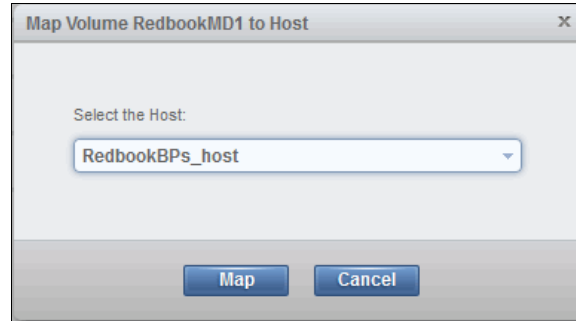

Figure 8-7 Select host in the IBM FlashSystem 900
5. In the **Select the Host** list, select the host that you want to map and then click **Map** (Figure 8-7).